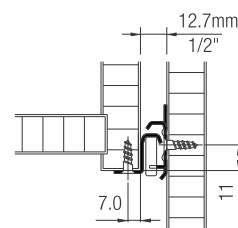

Fig. 1 FRONT VIEW
1. Side gap of 12.7 mm (1/2") per side required (Refer Fig. 1).